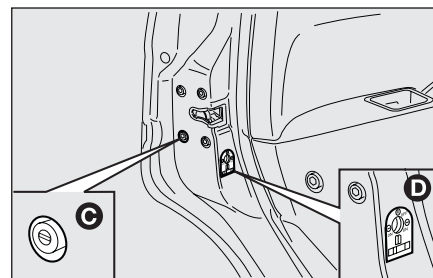

fig. 17
- ☐ operation of the door safety device **C-fig. 17** from the outside for use the electric system is not working (e.g. flat battery);
- ☐ operation of the child lock **D-fig. 17** on rear doors.